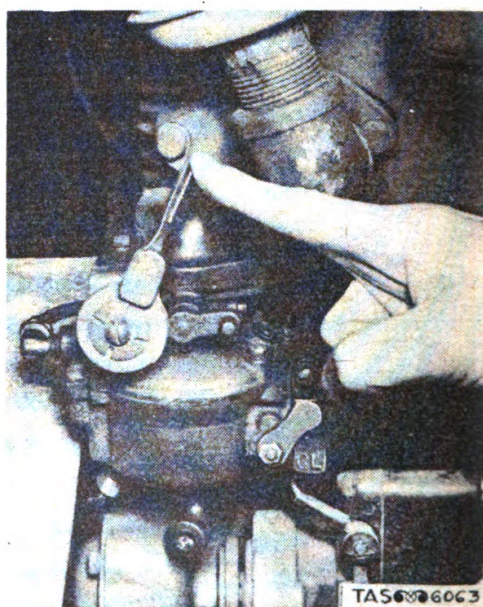

Fig. 63. Placing Throttle in Run Position.
(13) When the engine is warmed up and is running smoothly, place the throttle in the run position - that is, push the throttle up so as to release completely the throttle lever. (See fig. 63.)
(14) Open the peep-hole and look in to make certain that the fuel oil-air mixture is burning in the firebox.
(15) WATCH THE DIAL THERMOMETER ON THE GENERATOR CONTROL PANEL. (From a cold start it should rise to 700 degrees Fahrenheit in about 6 minutes.)